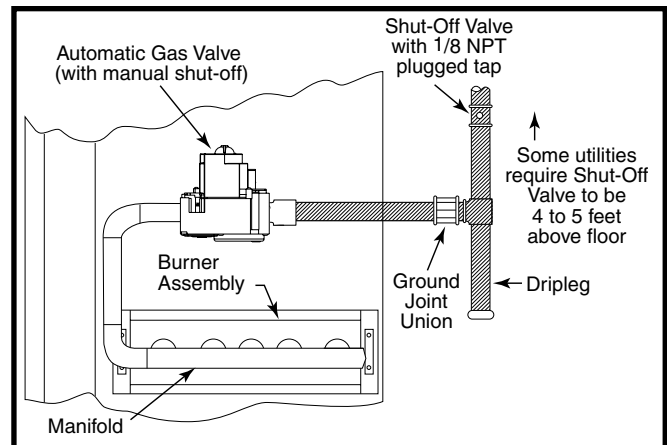

Figure 9. Typical Gas Hookup - Right Side Entry
- Some local codes require the installation of a manual main shut-off valve and ground joint union external to the furnace (Figure 9). The shut-off valve should be readily accessible for service and/or emergency use. Consult the local utility or gas supplier for additional requirements regarding placement of the manual main gas shut-off.
- A drip leg should be installed in the vertical pipe run to the unit (Figure 9).